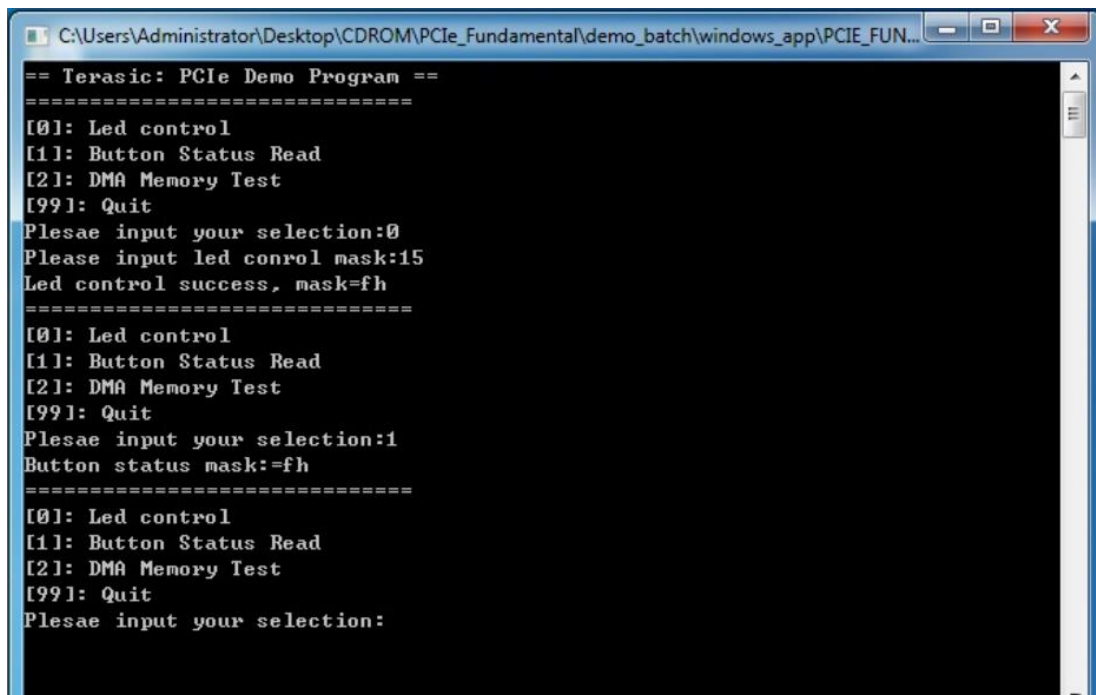

Figure 0-13 Screenshot of Button Status Report
9. Type 1 followed by an ENTER key to select Button Status Read item. The button status will be report as shown in **Figure 0-13**.